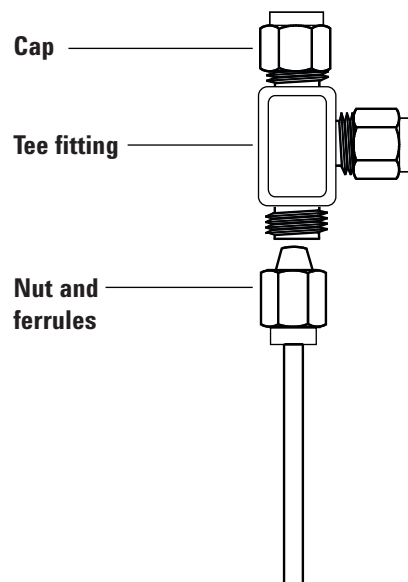

Figure 23 Swagelok tee
- 1 Cut the tubing where you want to install the Tee. Connect the tubing and Tee with a Swagelok fitting. See Figure 23.